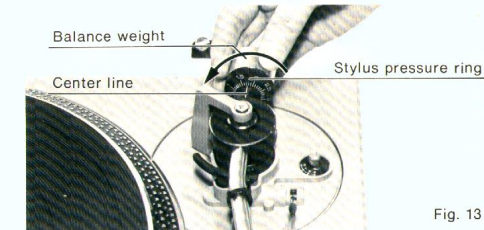

Fig. 13
6. After adjusting the horizontal balance, turn the balance weight clockwise in the direction of the arrow and align the correct stylus pressure. (Follow the Cartridge Manufacturer's recommendation.) (See Fig. 13)